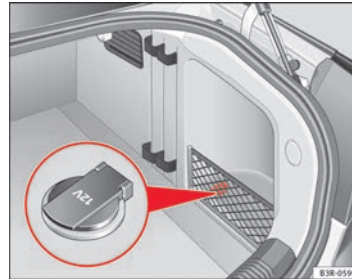

Fig. 123 Detailed view of the side trim in the luggage compartment: 12 volt socket
- Lift the power socket cover ⇒ Fig. 123.